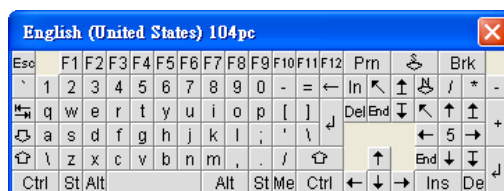

Figure 10-9 Soft Keyboard
- **Soft Keyboard:** A virtual keyboard is provided for easy input. It also provides localized keyboard mapping. Please refer to Figure 10-9.